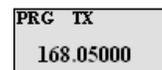

Figure 8
10. LCD will display "PRGTX 168.05000" for programming the **TX Frequency**. (See Figure 8) Press the "CLR" key to clear the current frequency and enter a valid VHF TX frequency and press the "ENT" key.